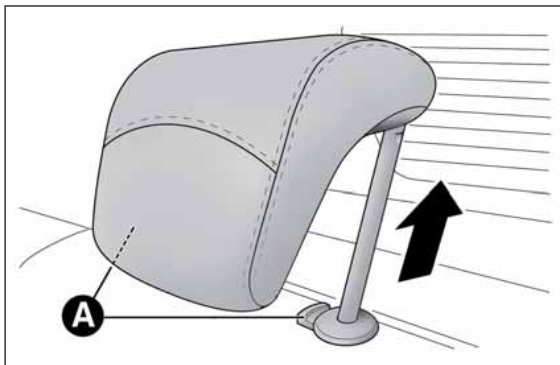

fig. 26
- press buttons A fig. 26, then remove the head restraints by pulling them upwards.